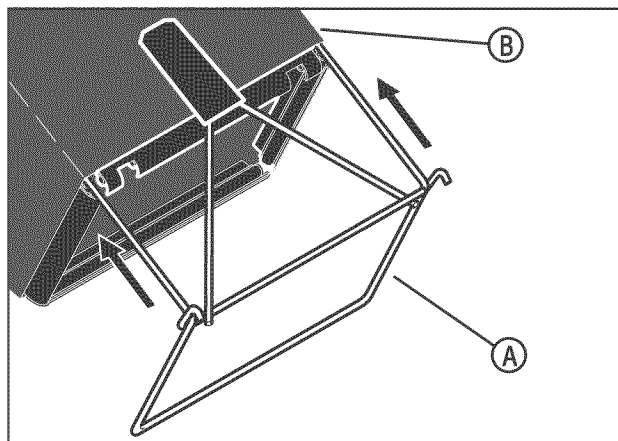

Figure 5: Installing the frame assembly
1. Slide the frame assembly (A, Figure 5) into the grass bag (B).